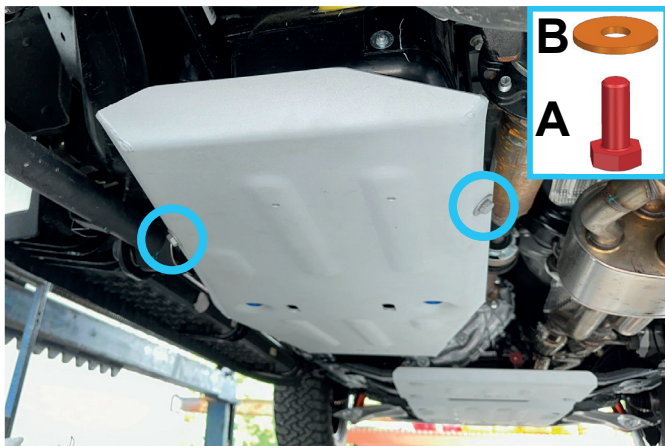
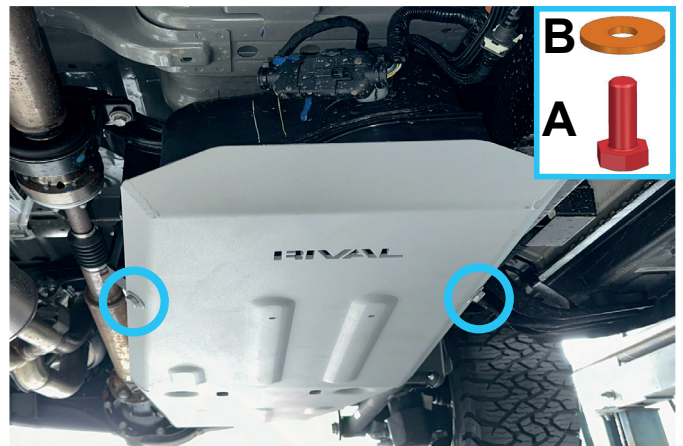

Fig. 11
Fig. 12
11. Install the gas tank skid plate (item 1) to brackets using bolts M10x25 (item A) and washers 10 (item B) as shown in fig.11 and fig.12.